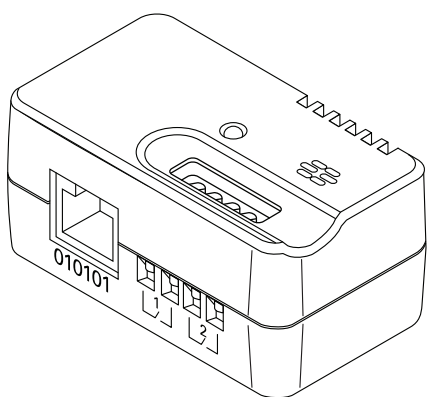

Figure 18. EMP Screw Terminals
2. If you plan to monitor one or two external contact devices, connect the external contact inputs to the screw terminals on the EMP, as described in Figure 18 and Table 3.